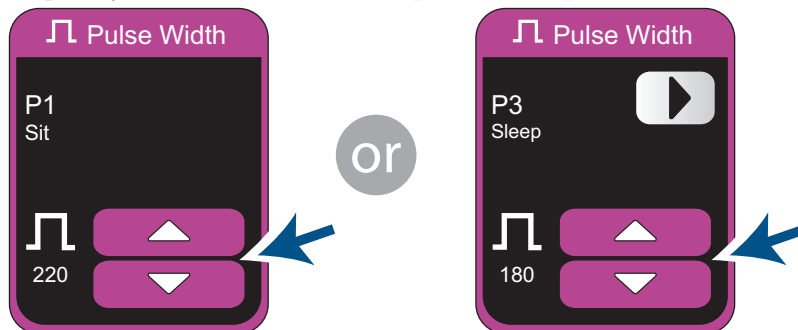

Figure 25. Increasing or decreasing the pulse width
3. Tap  or  to increase or decrease the pulse width of the program (*Figure 25*).